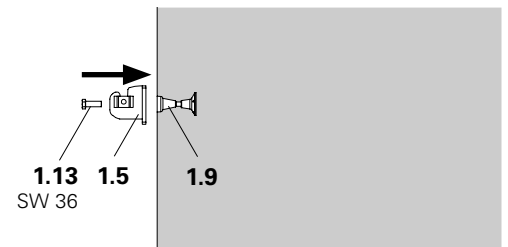

Fig. B1.05
1. Fix Suspension Head VGK (1.5) to the Screw-On Cone M24/DW 20 (1.9) using Bolt M24 x 70-10.9 (1.13). (Fig. B1.05)